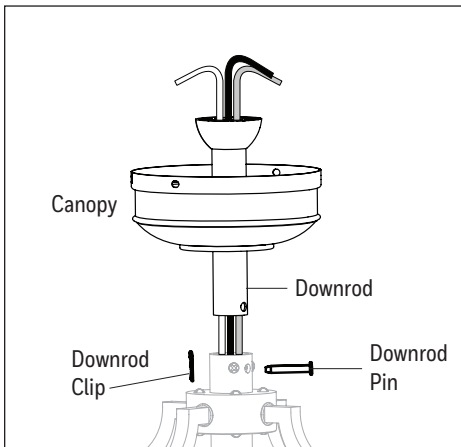

Figure 3.1
1. Remove the downrod clip and downrod pin from the yoke at the top of the motor assembly. Then, loosen but do not remove the two set screws at the top of the yoke. Then, Insert the downrod through the canopy and feed the wires from the motor assembly through the downrod (Figure 3.1).